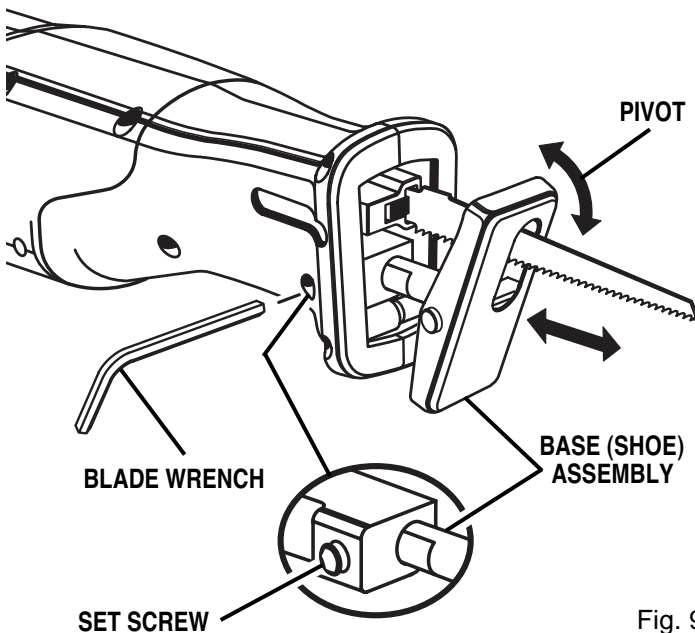

Fig. 9
See Figure 9.
- Loosen the set screw in the gear frame with the blade wrench provided with this saw. See Figure 9.